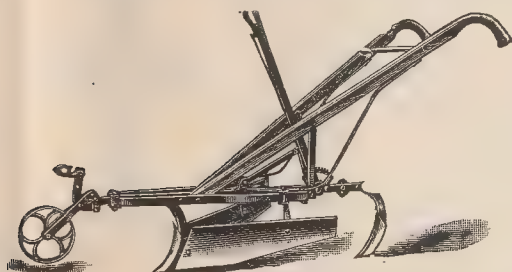

Fig. 103
**The Hilling Attachment** is applied as shown in Fig. 103. This attachment is used in cases where higher ridging is desired than what can be accomplished with the regular Horse Hoe blades. **Price, attachment only.**